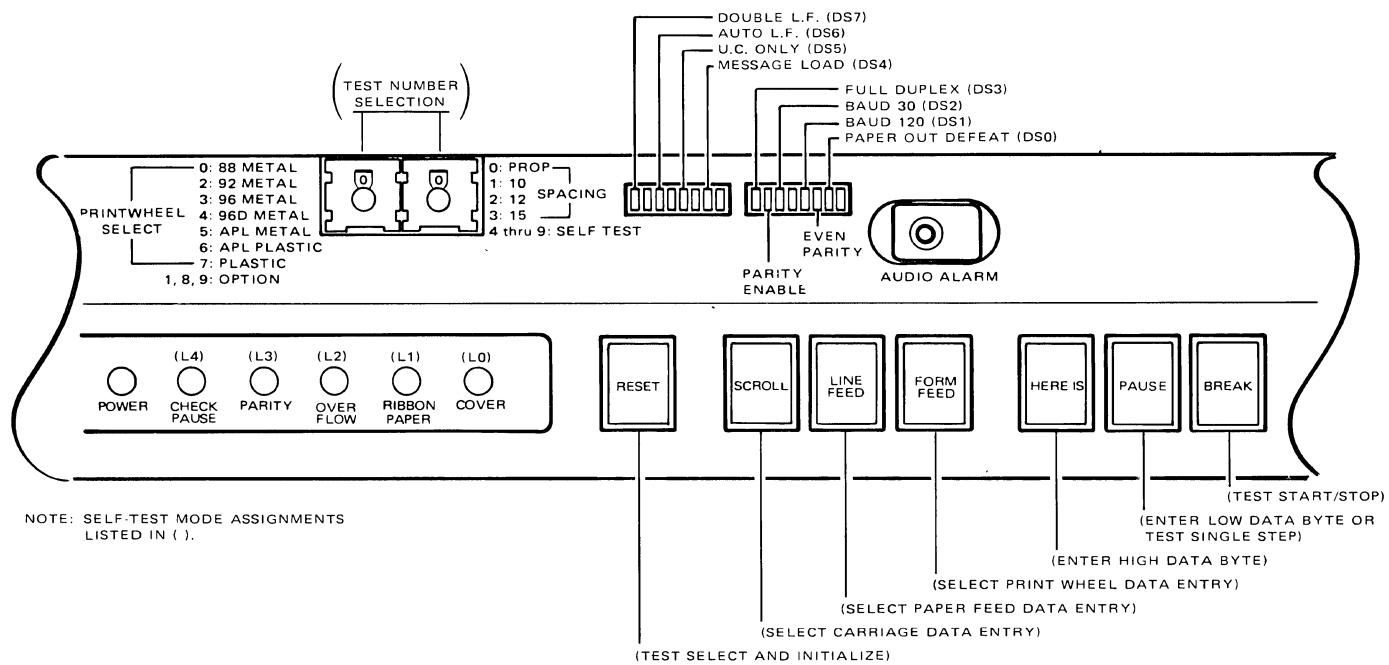

Figure 3-6. HPRO5 OPERATOR CONTROL PANEL - SELF-TEST MODE
**PAUSE** Switch (see Fig. 3-6) - After the test has been stopped by the **BREAK** switch, this switch may be used to single-step through the test. Each time the switch is pressed, the test advances one step.
Figure 3-6 shows the standard designations, and in parentheses ( ) the self-test designations, for the lights and switches on the Model 630 control panel. Figure 3-6 is followed by a list of control panel redefinitions that apply during the self-test mode.